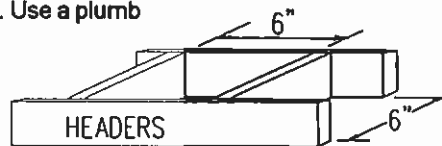

FIGURE 2
2. Cut and frame an opening in the roof to provide a 1" clearance between the outside of the 'B' vent and any combustible material. DO NOT FILL THIS SPACE WITH ANY TYPE OF MATERIAL. Nail headers between the joist for extra support. Firestop spacers must be placed on the bottom of each framed opening in any floor or on top of any framed opening in any attic that the 'B' vent passes through. FIGURE 2.